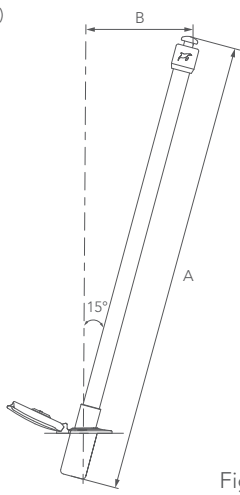

Fig. 6
2. To prevent potential damage, avoid tensioning poles beyond a 15-degree angle. (Fig. 6)